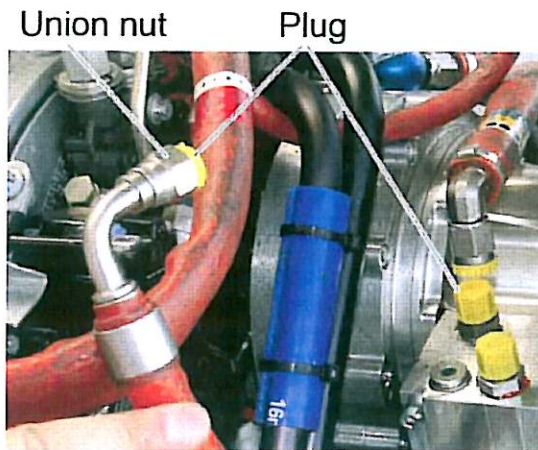

Figure 6
6. Detach the union nut of the hose line from the Constant Speed Unit (CSU). Seal the hose line and the Constant Speed Unit (CSU) with appropriate plugs to protect them from contamination or dirt. See Figure 6.